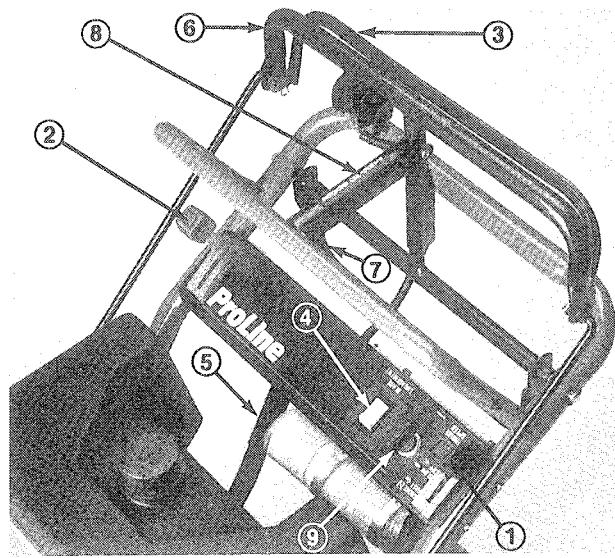

Figure 15
**Engine Speed Control (Fig. 15)** – The engine speed control has two positions: FAST and SLOW.
**Choke Control (Fig. 15)** – The choke control has two positions: CHOKE and RUN.
**Deck Engagement Control Bail (Fig. 15)** – Control bail used in conjunction with deck engagement switch to release blade brake and engage electromagnetic clutch to drive deck pulleys. Release bail to disengage deck pulleys.
**Deck Engagement Switch (Fig. 15)** – Rocker switch used in conjunction with control bail to release blade brake and engage electromagnetic clutch to drive deck pulleys.
**Gear Shift Lever (Fig. 15)** – Transmission has four forward speeds, neutral and reverse, and has an in-line shift pattern. Do not shift while unit is moving, as transmission damage may occur.
**Upper Control Bar (Fig. 15)** – Shift to desired gear and push forward on control bar to engage forward traction operation and pull back to brake. Pull right side of control bar to turn right and left side to turn left.
**Lower Control Bar (Fig. 15)** – Shift transmission to reverse and pull rearward on lower control bar to engage rearward traction operation.
**Parking Brake Lever (Fig. 15)** – Pull back on upper control bar and swing brake lever up against the upper handle.
**Ignition Switch (Fig. 15)** – Switch is part of battery ignition system and it has three positions: OFF, RUN and START. Key automatically returns to RUN position from START position when released after engine starts.